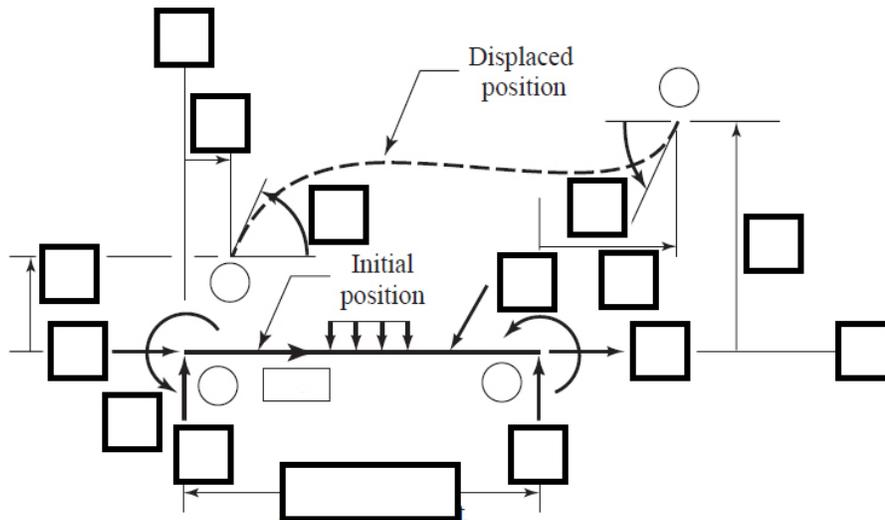

Figure 6. Member m shown with the member end forces and displacements in local coordinates.
- The DOFs are numbered in the same manner as done previously (see previous notes and reference Figure 6 below).